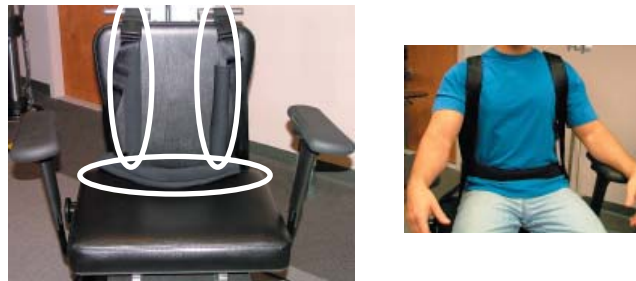

Figure 6-65. Waist and Shoulder Straps
Step 6. Secure the patient with the waist strap and shoulder straps (Figure 6-65).